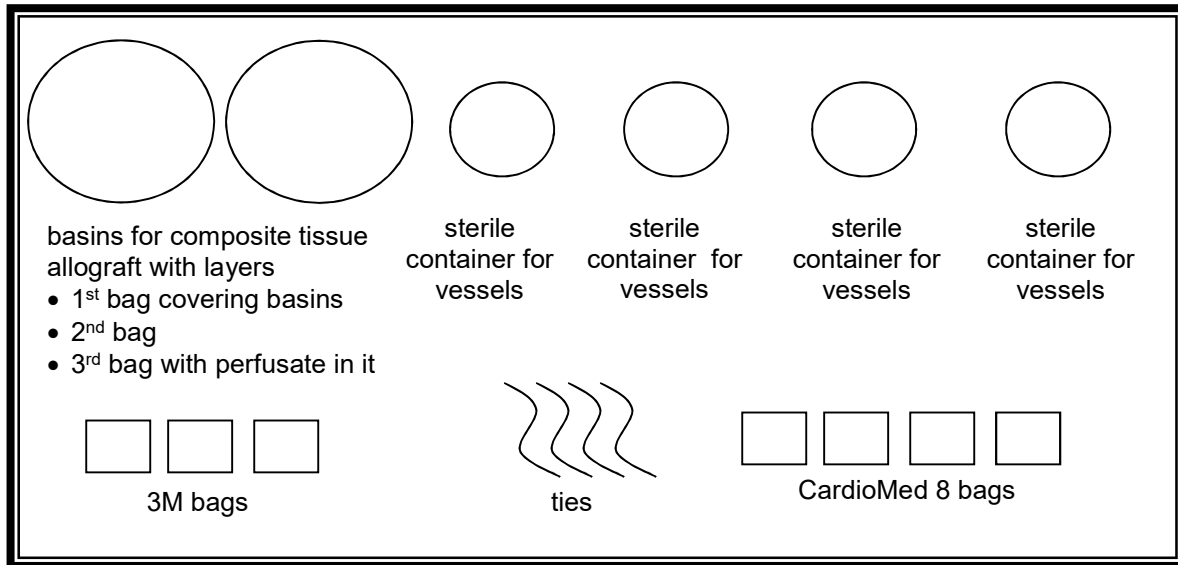

Figure 1: Sterile Back Table Set-up for Composite Tissue
12. The SRC or designate records the first set of donor vitals on the *Organ Donor Surgery Information*, which includes the time, medications (RX) and dosage, blood pressure, and heart rate, if applicable. The SRC or designate records these values every applicable hour or less of the recovery process, if required.
14. The SRC or designate asks the OR staff for 1 intravenous (IV) pole for use during perfusion, a table, and 1 sterile basin for composite tissue allograft packaging.
17. The SRC or designate scrubs in, as per aseptic protocol, and prepares the back table with the assistance of the circulating nurse. See Figure 1. The following materials are required: